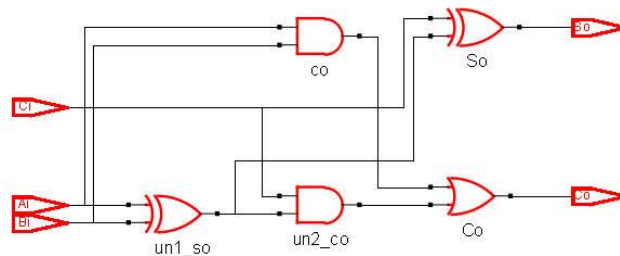

Fig. 30
- Perform a gate level simulation in an *Adder_1bit* structural circuit like the one represented in Fig. 30. More architectures can be found in the 1-bit full adder tutorial. Find the maximum speed of computation of this circuit for a given target PLD chip.